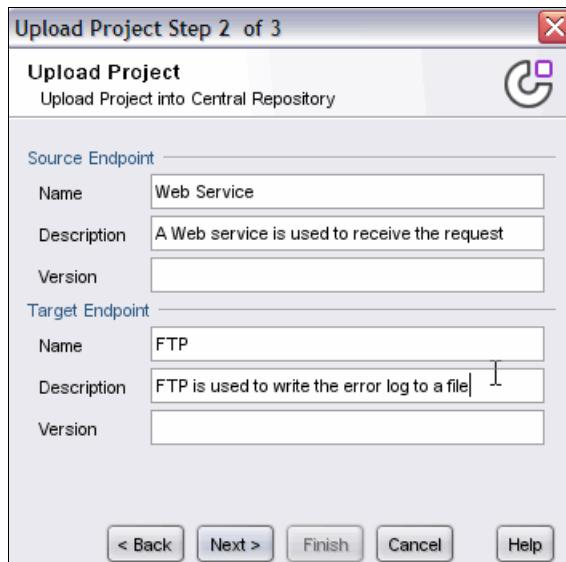

Figure 7-18 Step 2: Common error handler TIP upload
4. The Upload Project Step 2 of 3 window opens, as shown in Figure 7-18 on page 307.